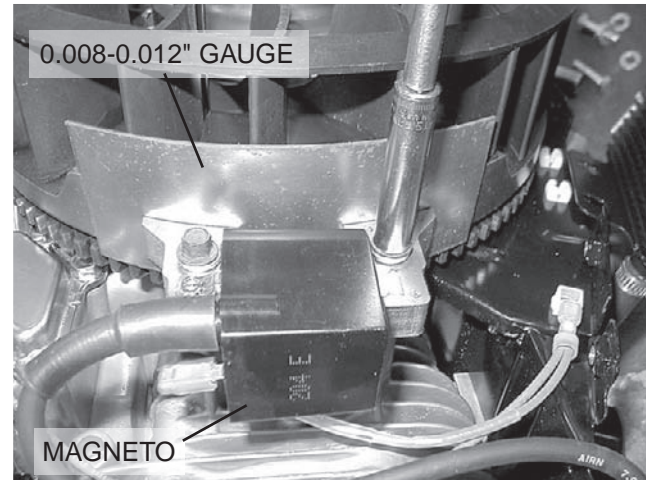

Figure 25. Setting Ignition Magneto (Armature) Air Gap
1. See Figure 25. Rotate the flywheel until the magnet is under the module (armature) laminations.